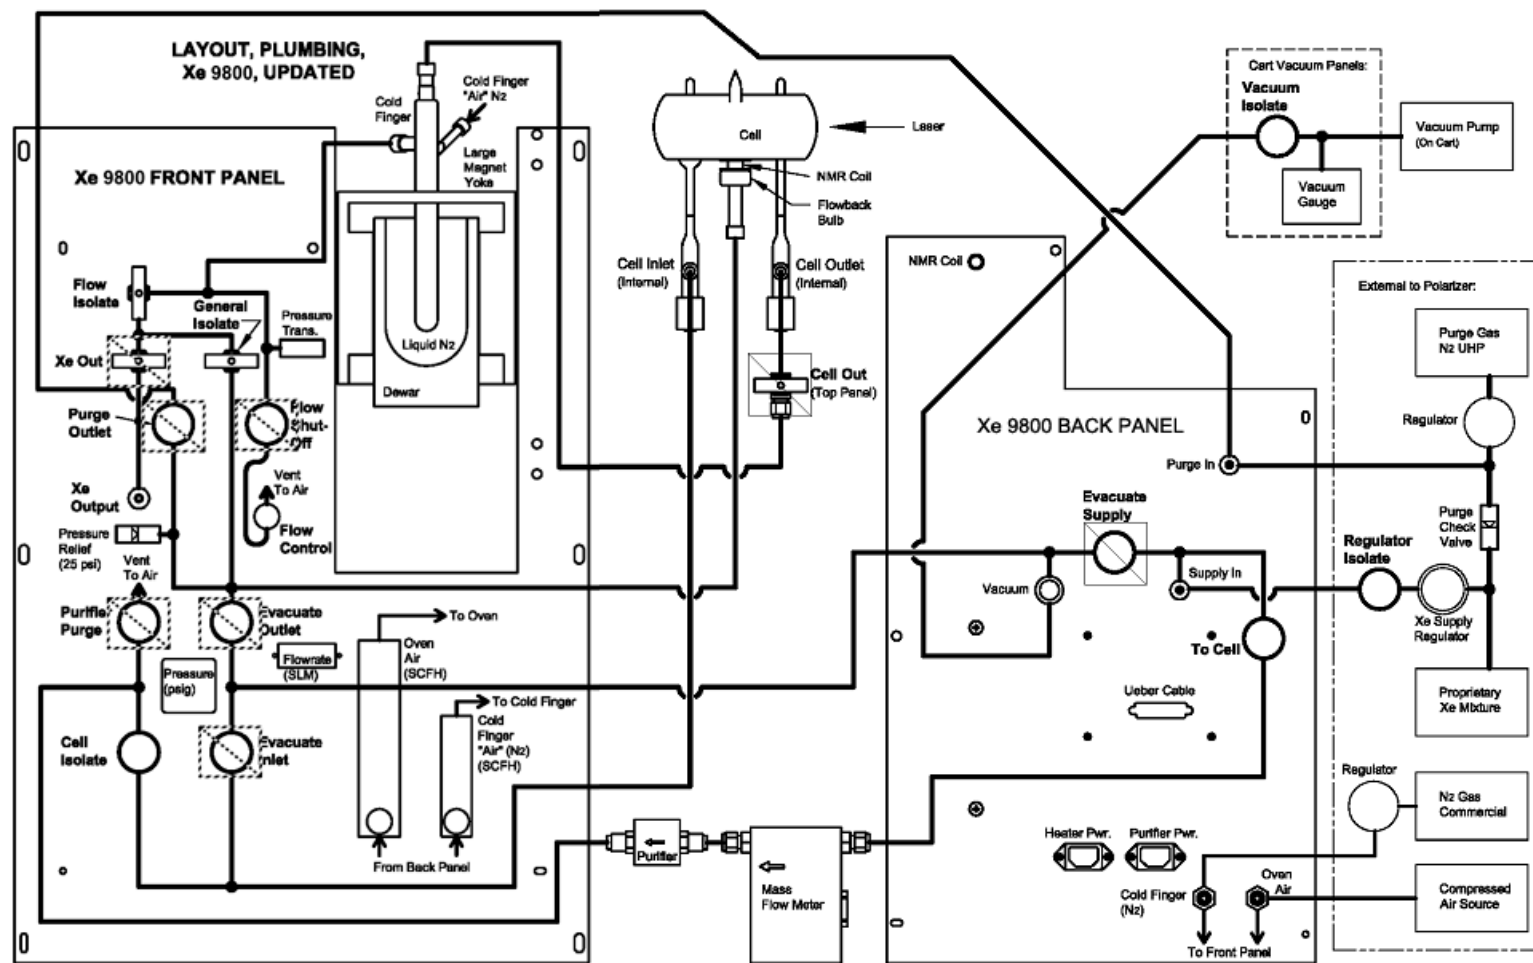

Figure 5: Xenon polarizer plumbing layout
The complete Xenon polarizer plumbing diagram is shown in **Figure 5**. This diagram should be consulted when performing maintenance tasks.
1. Verify that all pieces of the protective housing (shown in the plumbing layout of **Figure 5**) are in place, including screws and gaskets.